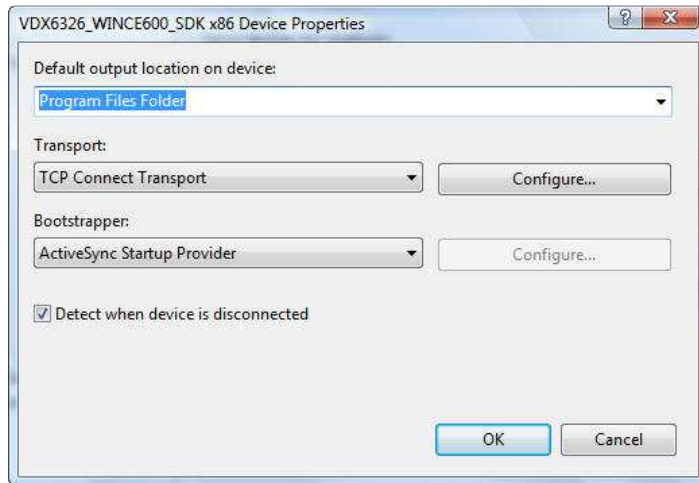

Fig. N10 - VDX6326_WINCE600 x86 Device properties
- Click on the **Properties** button to bring up **VDX6326_WINCE600_SDK x86 Device Properties** setting screen, as shown in Figure N10.